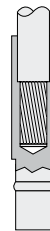

Fig. 1
- ❖ Assemble the crimp onto the end of the cable – make sure all the strands are within the crimp body. Look through the inspection hole in the side of the barrel, to check the ends of the strands are fully inside the barrel. The cable insulation should also go inside the crimp barrel – see Figure 1.